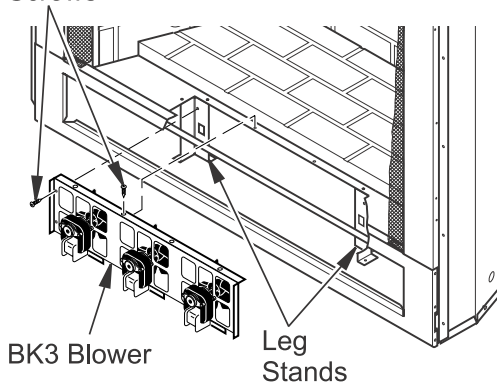

Figure 16 - Mounting BK3 Blower
2. Place BK3 fan assembly between two leg stands with fan blades pointing toward rear of fireplace (see Figure 16).
- Using screws provided, fasten upper flange of blower bracket to hearth pan and end flanges to leg stands (see Figure 16, page 15).